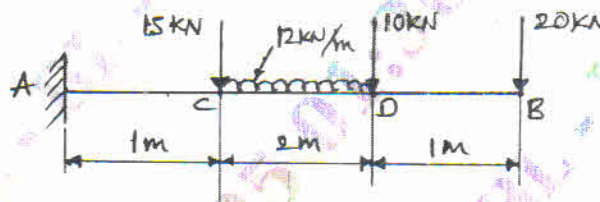

Fig.Q5(b)
- b. A cantilever beam carries UDL and point loads as shown in Fig.Q5(b). Construct SFD and BMD.